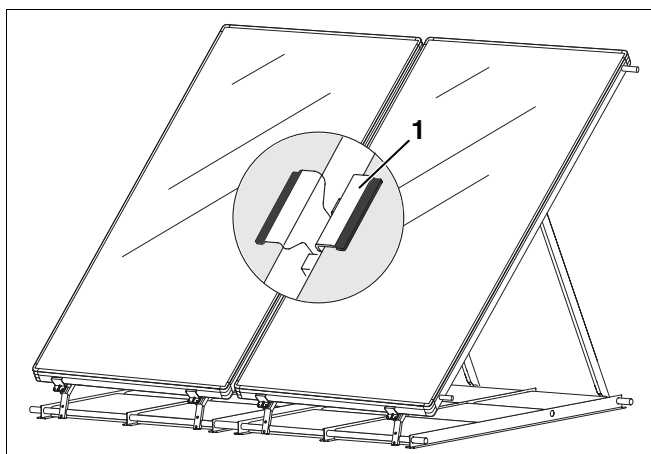

Fig. 39 Secure collectors centrally with auxiliary holders
Collectors need to be additionally fitted with a double clip (Fig. 39, **Item 1**), if an auxiliary holder (accessory) is fitted.
- ▶ Position the edge of the double clamp onto the glass panes of the collectors (Fig. 39).